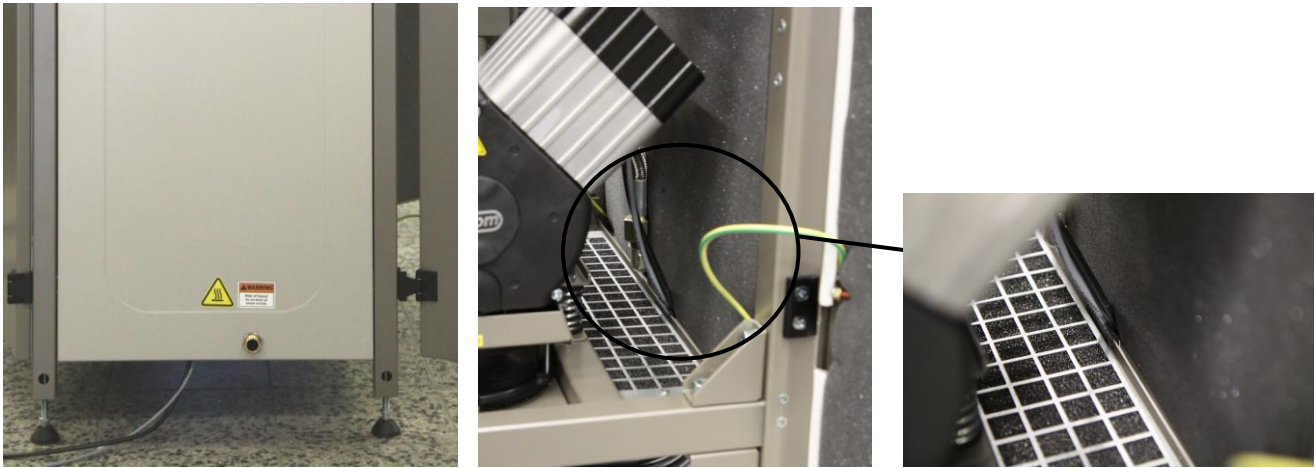

Fig.12
- Connect the compressor module to sensor B1 located on the air tank using the W23 cable, which is terminated with a valve connector. (Fig. 12, Fig. 14)